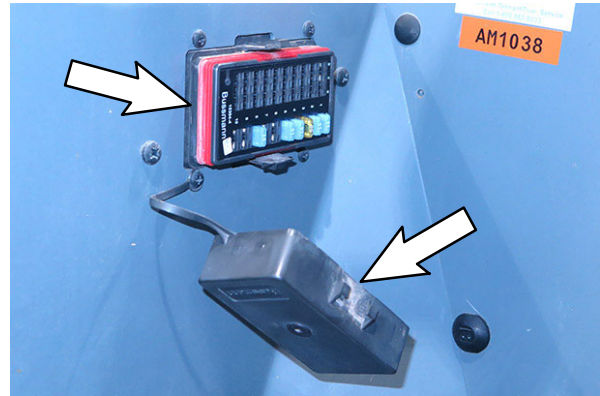

FIG. 10
19. **IC Machines Only:** Remove the cover from the fuse panel. (Fig. 10)
20. **IC Machines Only:** Insert a 5- Amp fuse (17) into location 11 in the fuse panel. (Fig. 10)
22. **IC Machines Only:** Connect the blue spotlight harness (6) power in lead to the previously installed 5- Amp fuse (17). (Fig. 10)
23. **IC Machines Only:** Reinstall the cover onto the fuse panel. (Fig. 10)